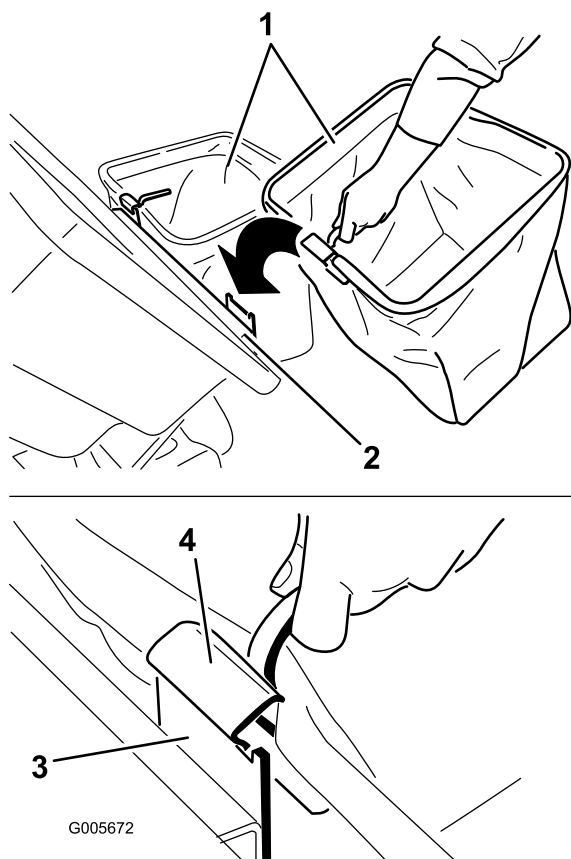

Figure 29
5. Install the bags by sliding the bag frame hooks onto the retaining brackets (Figure 29).